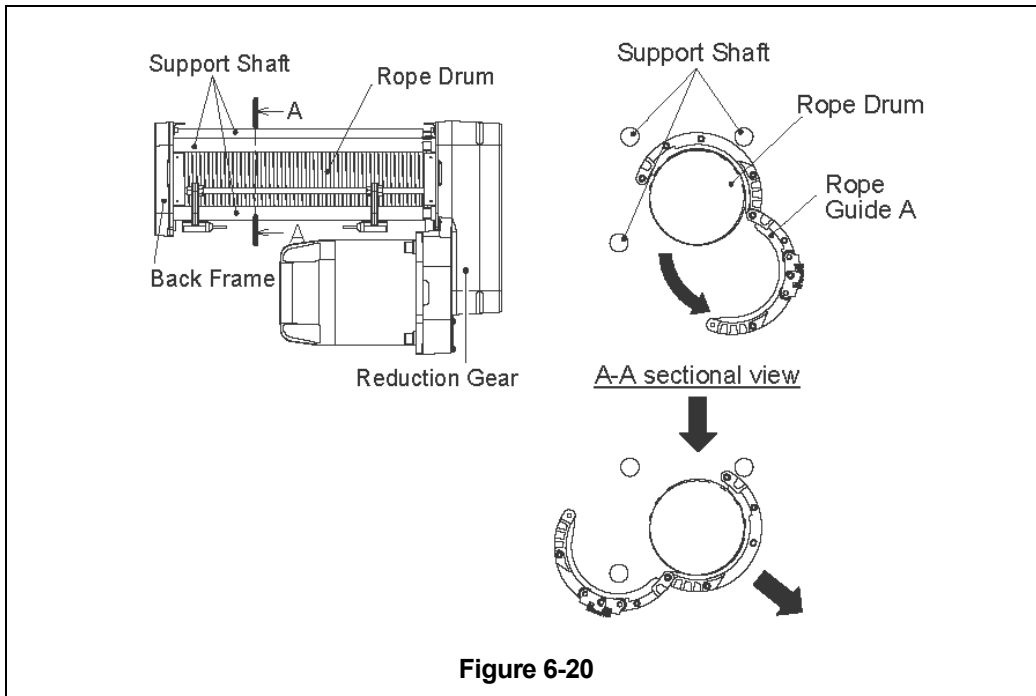

Figure 6-20
- 12) Remove the final bolt labeled “A” in **Figure 6-18**. This bolt is acting as a hinge point for the two segments of Rope Guide A as shown in **Figure 6-20**. With this bolt removed, the two segments of Rope Guide A will separate and can be removed separately.